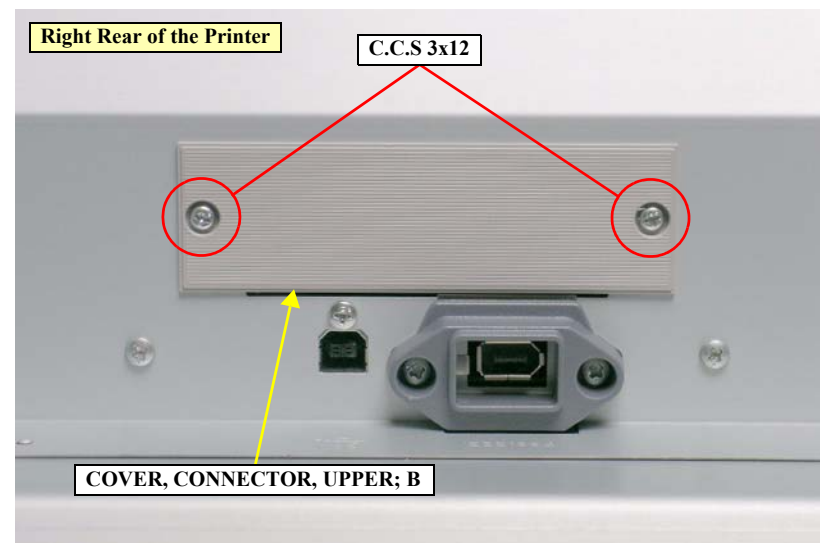

Figure 4-24. Removing the COVER, CONNECTOR, UPPER; B
1. Remove the two screws that secure the COVER, CONNECTOR, UPPER; B and remove it. *See Figure 4-24.*